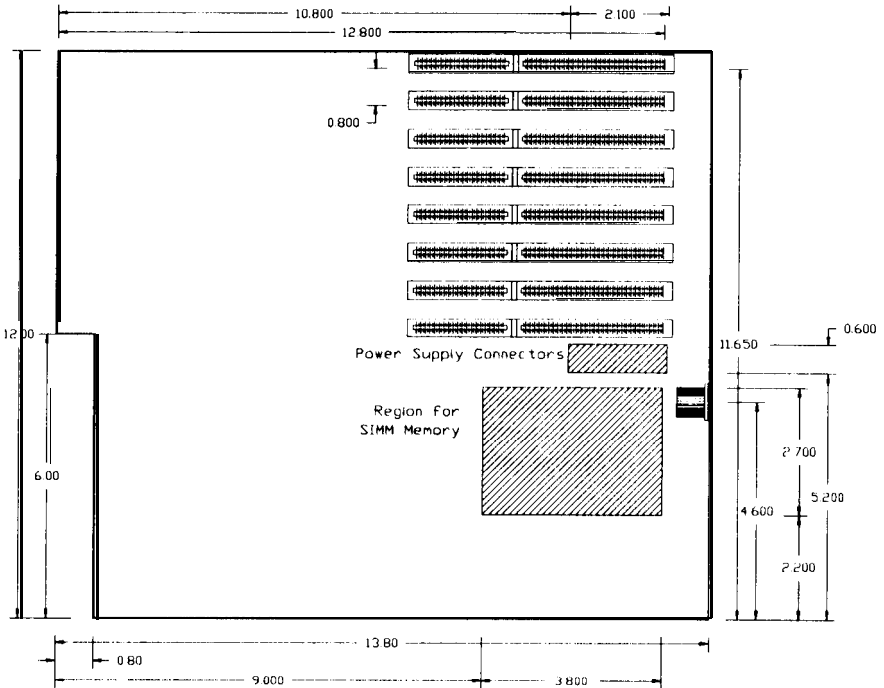

Figure 4-3. SIMM socket locations
- Locate the SIMM sockets between the expansion bus backplane connectors on the system board (see Figure 4-3). If the system board is installed in a computer chassis, remove any peripheral boards adjacent to the SIMM sockets installed in the system.